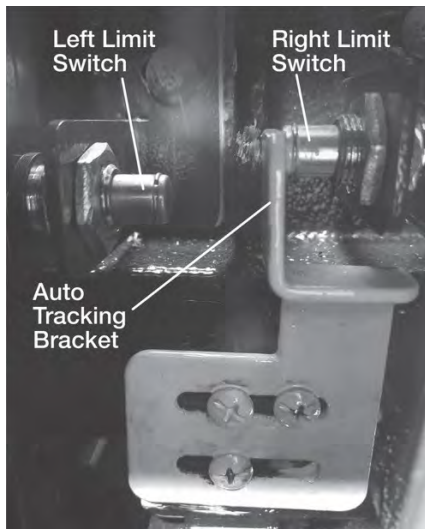
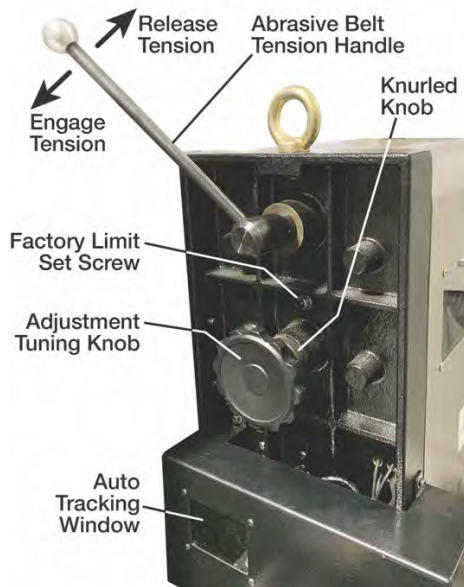

Figure 9-14: Tracking Mechanism and Tracking Switches
Figure 9-15: Factory Limit Set Screw and Adjustment Tuning Knob
When the belt tracking is properly adjusted, the auto tracking bracket oscillates left to right from one switch to the other. This can be viewed through the tracking window. See Figure 9-14. If you do not see proper oscillation, adjustment may be needed.
The factory limit set screw (see Figure 9-15) limits you from adjusting the left direction of travel too far, allowing the belt to travel off the outside end of the top roller. This set screw is preset at the factory and should not require adjusting.
The adjustment tuning knob (see Figure 9-15) allows for fine tuning the tracking and centers the abrasive belt on the roller. Adjust this knob to balance the auto tracking bracket to oscillate left to right from one limit switch to the other (see Figure 9-14).
1. Loosen the large, knurled nut behind the adjustment tuning knob (see Figure 9-15). This will allow you to quickly adjust the belt tracking when needed.
4. Release tension from the abrasive belt by rotating the abrasive belt tension handle clockwise (see Figure 9-15).
8. Apply tension to the abrasive belt by rotating the abrasive belt tension handle counterclockwise (see Figure 9-15).
11. Start the abrasive belt drive only and move immediately to the auto tracking window to observe the auto tracking bracket (see Figure 9-14).
NOTE: if rotating the adjustment tuning knob counterclockwise results in a loss of tension in the tuning knob that prohibits the auto tracking bracket from moving towards the left limit switch, the factory limit set screw (see Figure 9-15) will require adjustment. Carefully follow the factory limit set screw adjustment steps below.